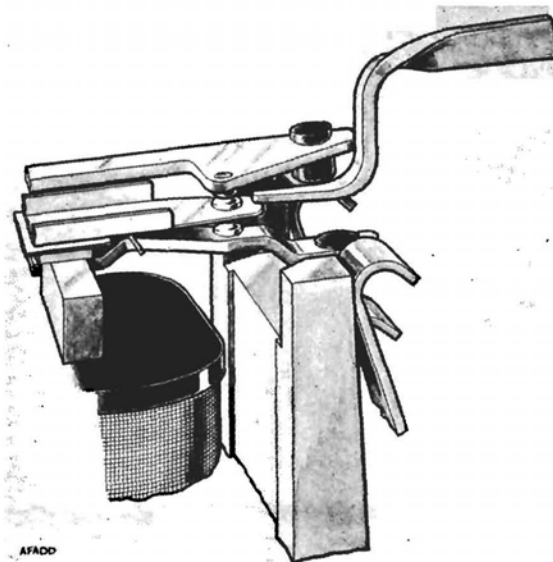

FIG. 13
11. Break contact pressures.—Tension the lever spring by adjusting the buffer-spring adjusting screw until the contact pressure of the break contact is within the limits of 10-24 gm. The contact pressure should be checked by applying the tip of the gauge detail to the tip of the lever spring, and in line with the contact (see Fig. 13). The contact pressure